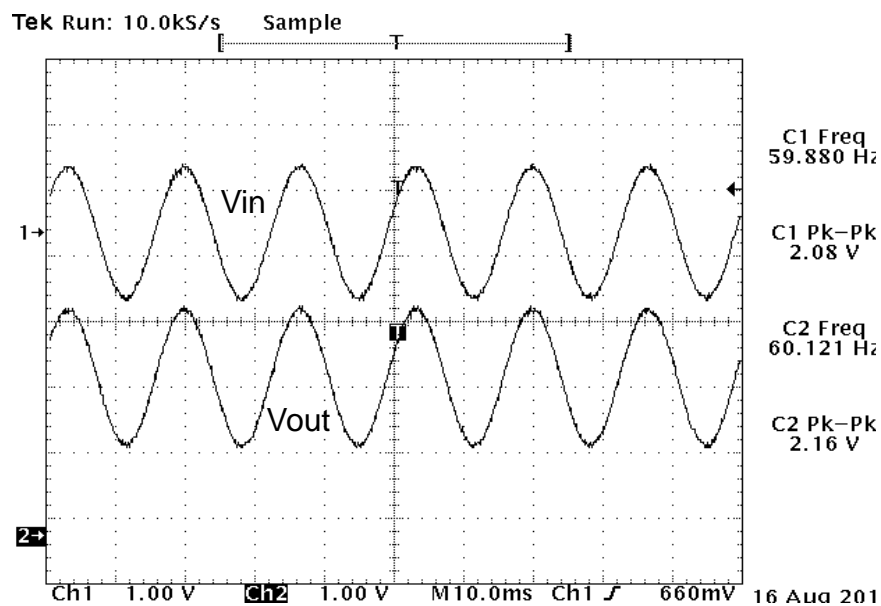

Figure 7. Circuit 1 Waveform (Vin = 2 Vpp, 60 Hz)
6. Figures 7–11 shows various analog signal response of Circuit1.